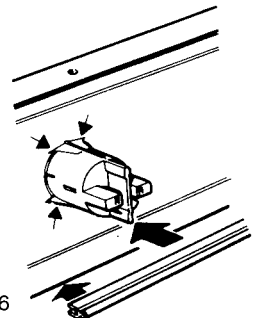

Fig. 16
3. Push in ignition switch tags and remove switch (see Fig. 16).